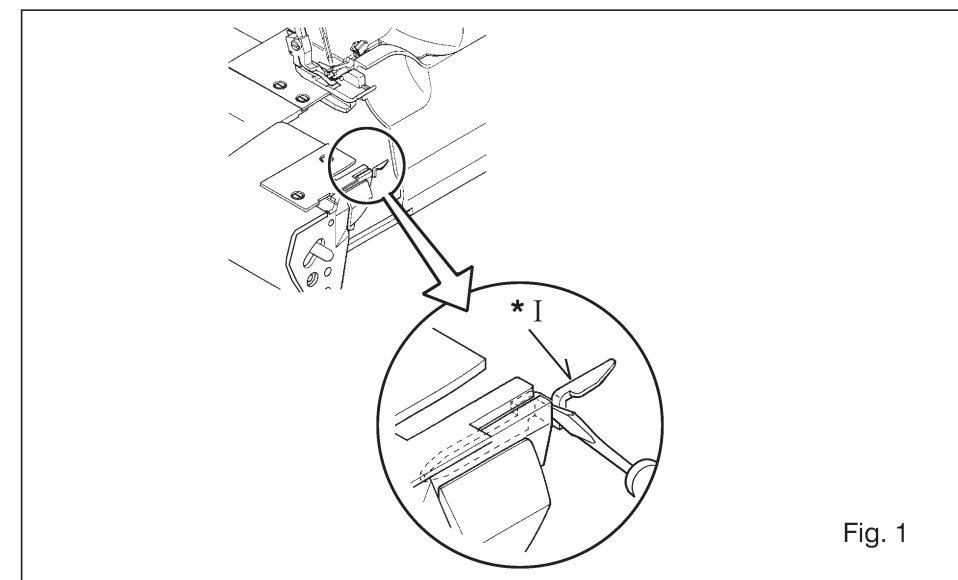

Fig. 1
2. After finishing, re-set the stitch finger in its place. Please ensure inserting it deep as illustrated in Fig 1.